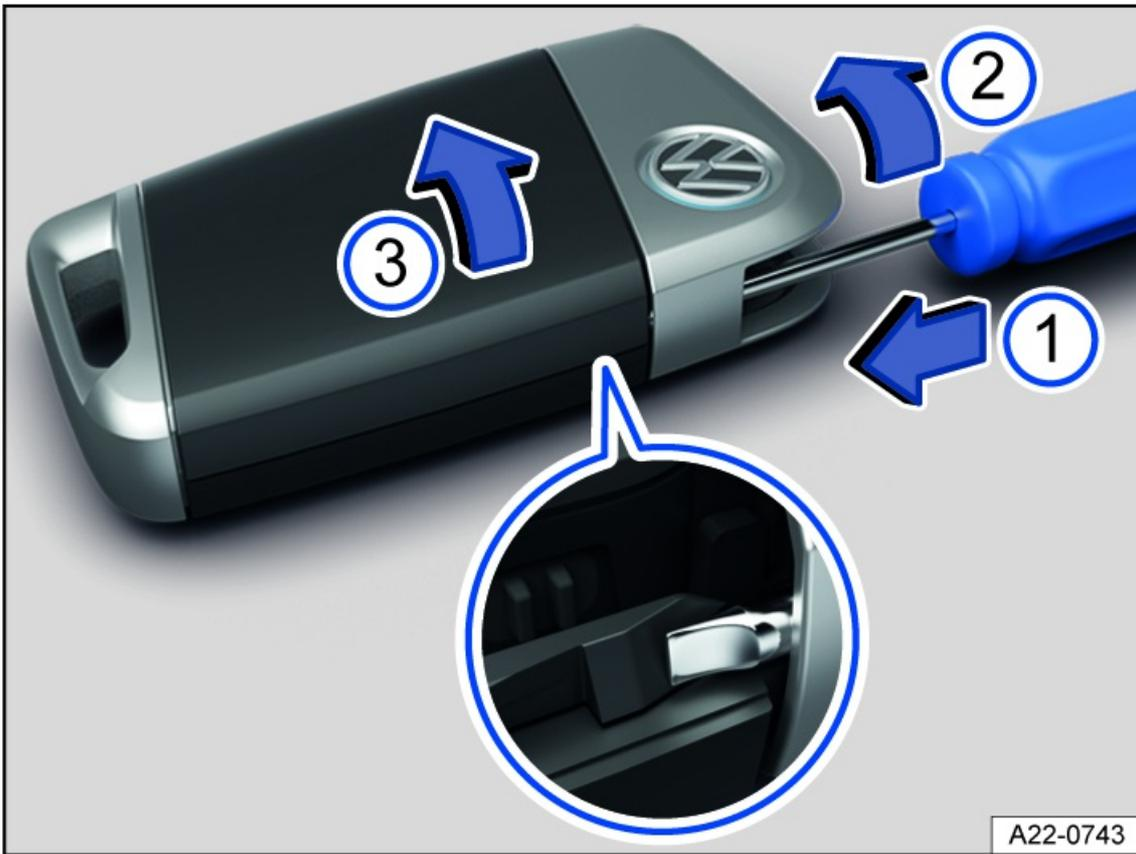

Fig. 48 Remote control vehicle key: opening the battery compartment cover.
2. Slide the blade of the flat-bladed screwdriver in the direction of the arrow approximately 1 cm into the outer guide on the emergency key in the vehicle key *fig. 48*.
3. Turn the flat-bladed screwdriver clockwise until the cover pops up *fig. 48*.
4. Push the cover in the direction of the arrow and remove it *fig. 48*.
7. Press the cover onto the housing *fig. 48*, ⇒ .